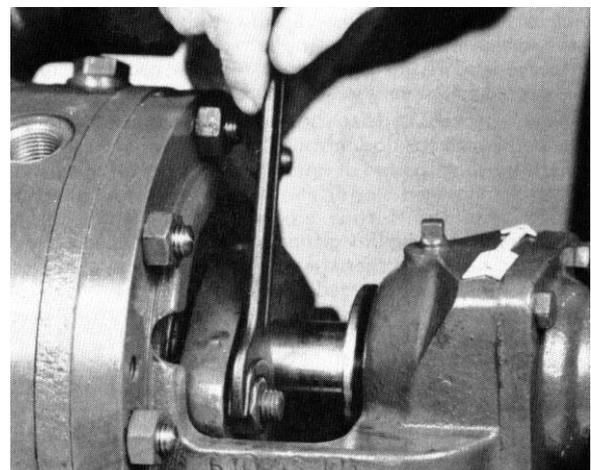

Fig. 19 - Tightening the stuffing box gland
The inserted packing rings should then be compressed moderately with the aid of the stuffing box gland (452) and of the nuts (see Fig. 19). Then the nuts should be slacked again by one to two complete turns, and there-after tightened lightly by hand. The correct and even seating of the stuffing box gland (452) should be checked when the pump is subjected to suction pressure, by inserting a feeler gauge between the gland (452) and the shaft protecting sleeve (524.1/2).
A newly packed stuffing box should leak profusely at first. If this leakage does not cease of its own accord after a relatively short period of operation, the nuts on the gland should be tightened slowly and evenly while the pump is running until the stuffing box only drips slightly. Make sure that the stuffing box glands (452) are tightened evenly and not askew, as otherwise the shaft protecting sleeves (524.1/2) might be damaged (see Fig. 19). The leakage rate in service of a soft-packed stuffing box should amount to 3 to 5 liters/hour approx.